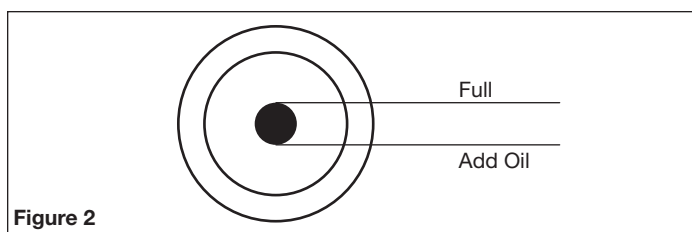

Figure 2
2. Remove pump fill plug and fill pump with 14.1 oz. of oil. Use full synthetic motor oil like Mobil 1® 10W-30. Do not use regular automotive oil such as 10W-30. Additives in regular oil can cause valve deposits and reduce pump life. For pumps with an oil sight glass, oil level can be monitored and maintained as shown in Figure 2.